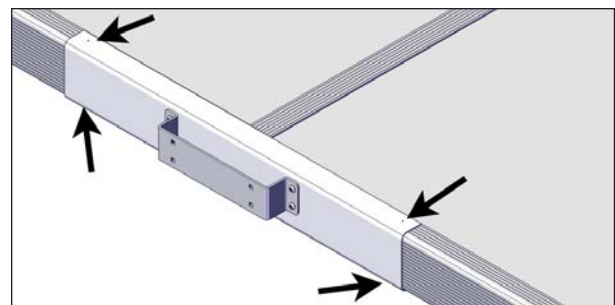
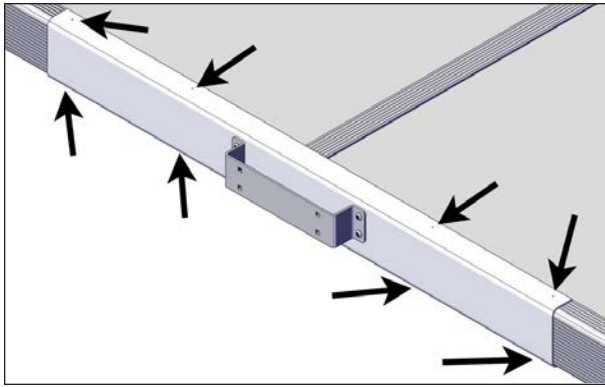

FIGURE 65: LOCATION OF THE DRILLING HOLES (4) IN THE SHORT SUPPORT BRACKET
FIGURE 66: LOCATION OF THE DRILLING HOLES (8) IN THE LONG SUPPORT BRACKET
- Next steps show how to drill holes to install the final screws on the support brackets. There are 4 holes to drill in the short support bracket (Figure 65) and 8 in the long support bracket (Figure 66).